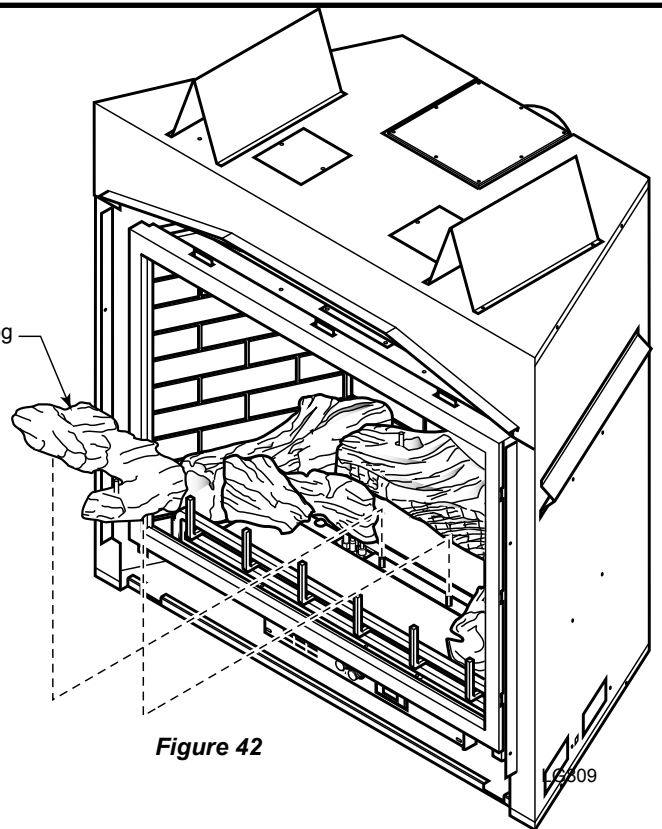

Figure 42
- 7. Place right mid log (#7) on two right pins on burner assembly. *Figure 42*